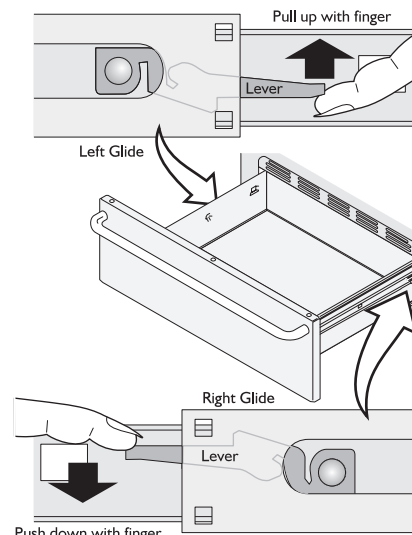

Figure 1
- Locate glide lever on each side of drawer, pull up on the left glide lever and push down on the right glide lever (see Figure 1).